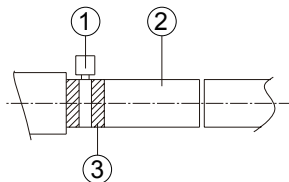

Fig 4.3.2
- (1) Insert the drain hose into the drain hole and tighten it with tapes, as shown in Fig 4.3.2.
- (2) Tighten the pipe clamp, with the distance between screw nut and hose smaller than 4mm.
- ① metal clamp(accessory)
- ② drain hose(accessory)